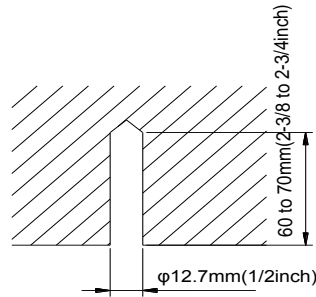

Figure 3-1-41
(2) Install the bolts to the ceiling at a place strong enough to hang the unit. Mark the bolt positions from the installation template. With a concrete drill, drill for 12.7mm (1/2inch) diameter holes (Figure 3-1-41).